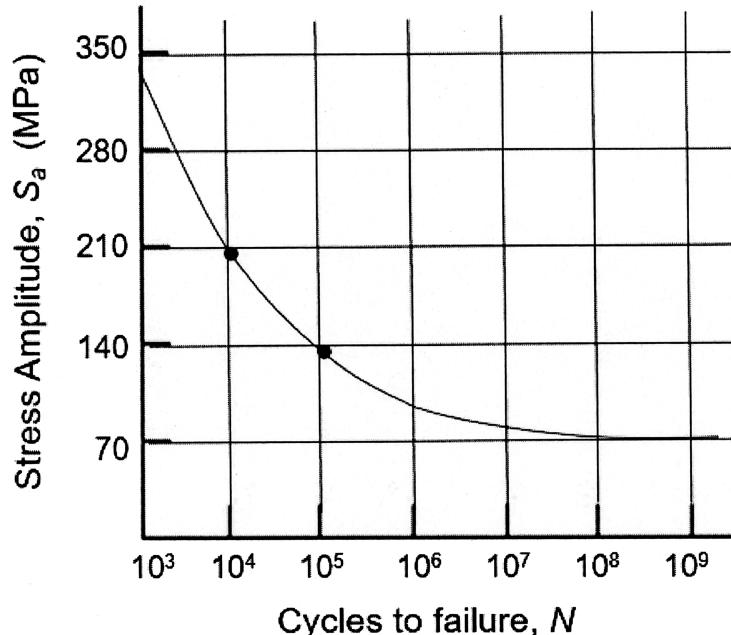

Figure 2.2 S-N Curve
- (b) An engine component is subjected to 25 cycles of tensile loading per day with a stress amplitude of $S_a = 138 \text{ MPa}$ and a mean stress of $S_m = 0 \text{ MPa}$. The S-N curve of the material for fully reversed cycle is given in Figure 2.2. The ultimate tensile strength is 460 MPa and the endurance limit is 70 MPa.